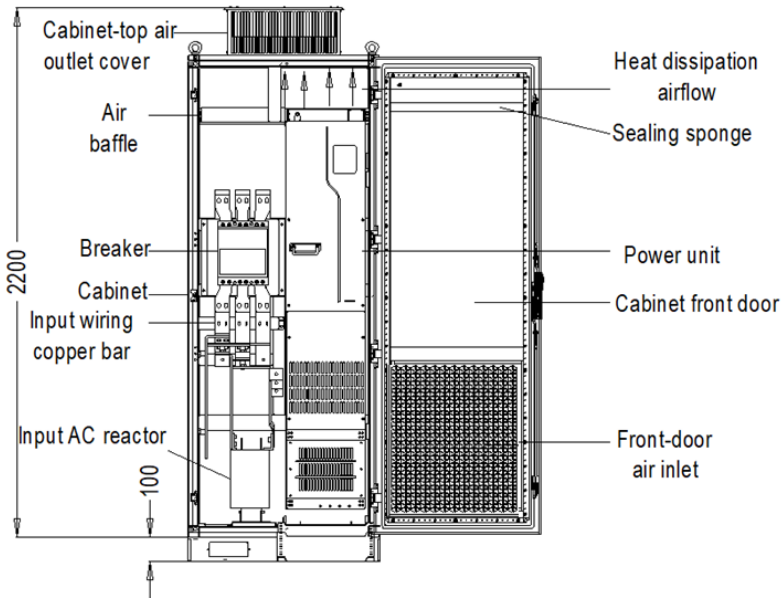

Figure 4-10 Recommended cabinet layout
- ✧ For in-cabinet mounting, see the cabinet layout diagram Figure 4-10. The cabinet frame is  $2200 \times 800 \times 600$  (unit: mm, including the H200 cabinet ventilation top cover). To secure the in-cabinet mounting, you must mount the H100 cabinet base. The air baffle must be mounted at the top of cabinet to prevent the hot air in the VFD outlet from circulating within the cabinet. A  $40 \times 40$  sealing sponge must be used at the position corresponding to the air baffle in the front door panel, which prevents air duct short circuit. In addition, air inlet vents must be made at the lower of the cabinet door.